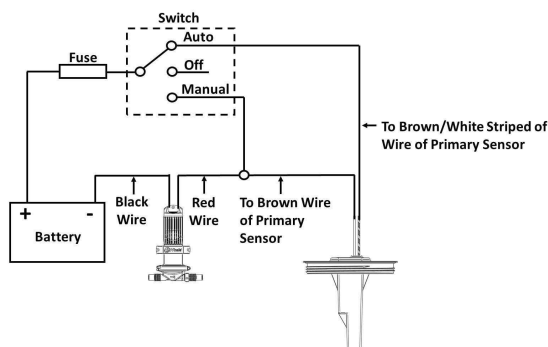
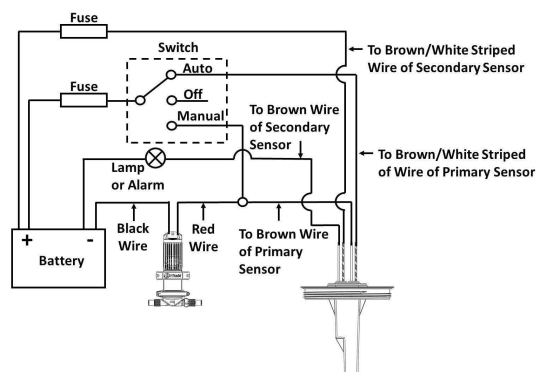

Figure 1A Wiring Diagram - for Single Sensor Models
Figure 1B Wiring Diagram - for Double Sensor Models
| Fig. 1A & B | Wiring Diagrams |
- **WARNING:** Installation **must** be carried out by a qualified electrician. Improper wiring can cause a fire resulting in injury or death. Suggested wiring information (Figure 1A and Figure 1B) is given as a guide only, and wiring **must** comply in accordance with the applicable electrical standards. Appropriate size fuses or circuit breakers **must** be installed.
Wiring: See Figure 1A or Figure 1B.
Incorrect wiring	Check wiring Figures 1A / 1B